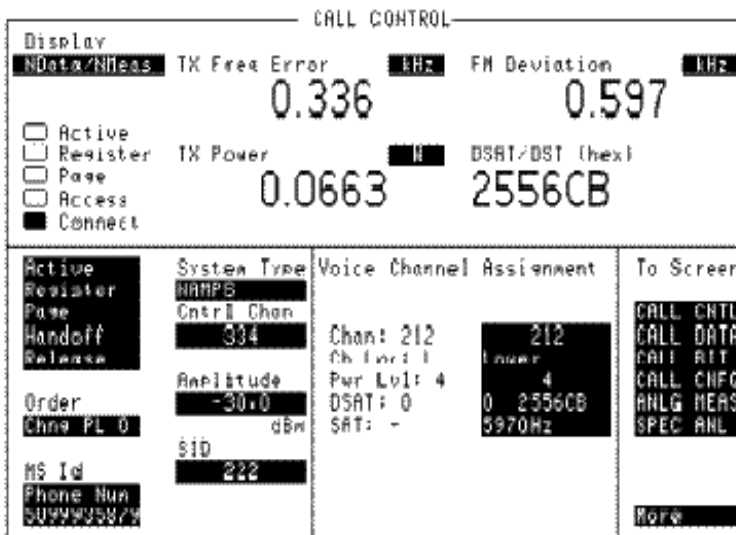

Figure 56 CALL CONTROL Screen with NMeas Selected
- For system type NAMPS the following parameters are measured when the Test Set is in the connect state. See Figure 56 .